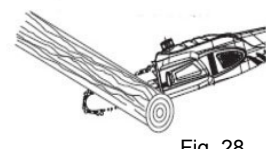

Fig. 28
**OVERBUCKING** - Begin on the top side of the log with the button of the saw against the log; exert light pressure downward. Note that the saw will tend to pull away from you. (Fig. 28)
**UNDER-BUCKING** - Begin on the under side of the log with the top of the saw against the log; exert light pressure upward. During under-bucking, the saw will tend to push back at you. Be prepared for this reaction and hold the saw firmly to maintain control. (Fig. 28)